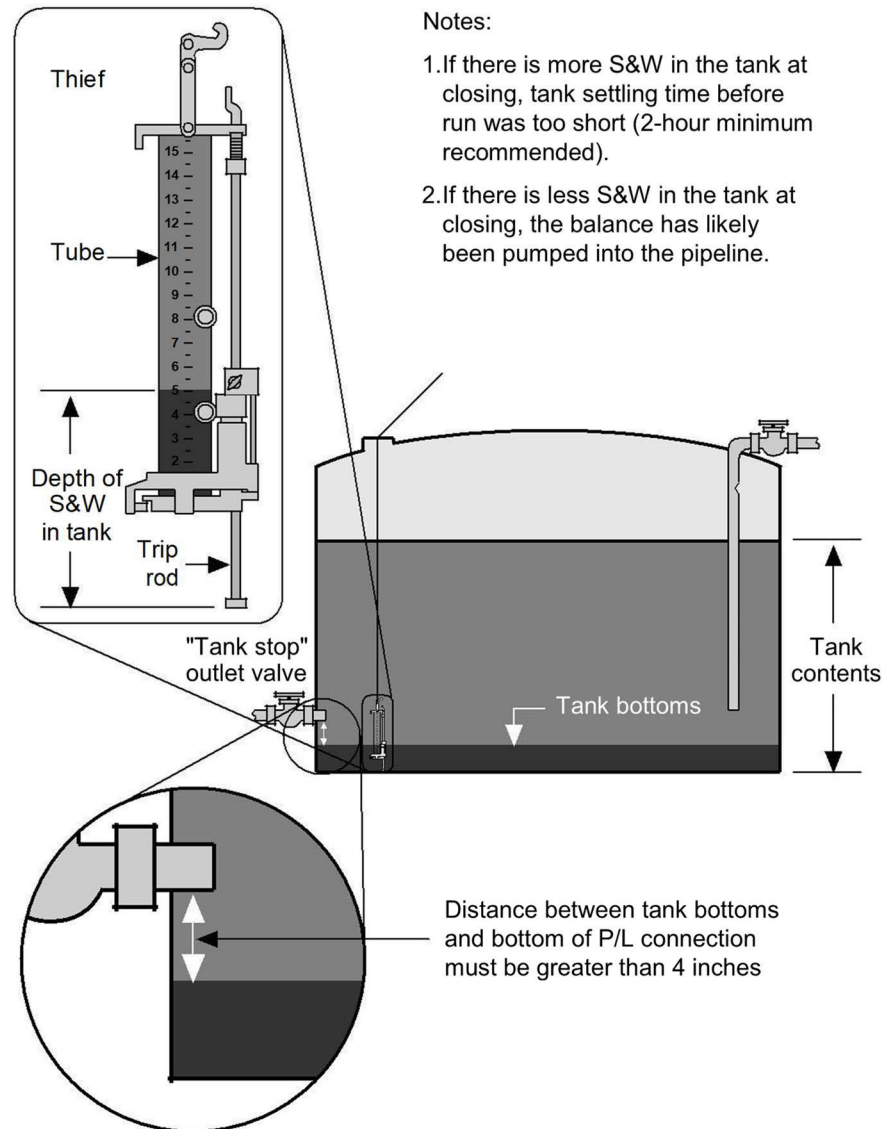

Figure 3.2. Checking the depth of settled S&W in the tank
6. Take an outlet/clearance sample (tank bottoms) to determine the level of settled S&W (see Figure 3.2).